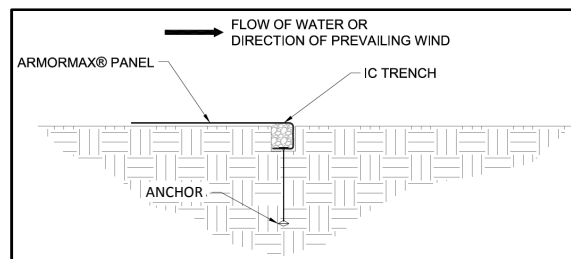

Figure 7 - Initial Channel (IC) Trench Complete
6. Fold the ARMORMAX panel over the top of the compacted IC trench (Figure 7) and place each panel end into the respective COS trenches.